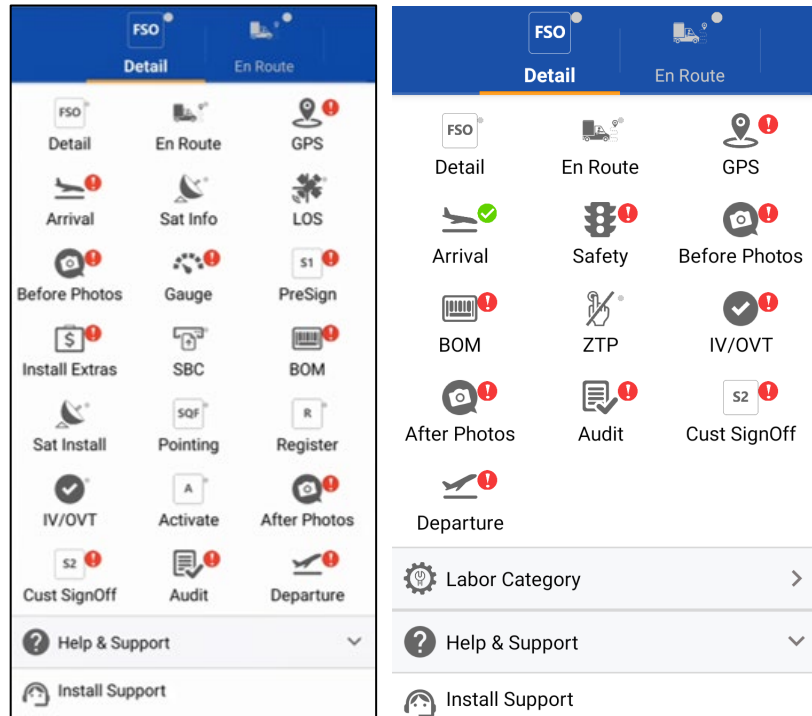

Figure 23: More menu for Jupiter (left) and Enterprise (right) installations
- Notes - At any point during the workflow, you can enter notes about the order by tapping the **Notes** icon (Figure 23). You will also see any other notes that were entered for the work order.